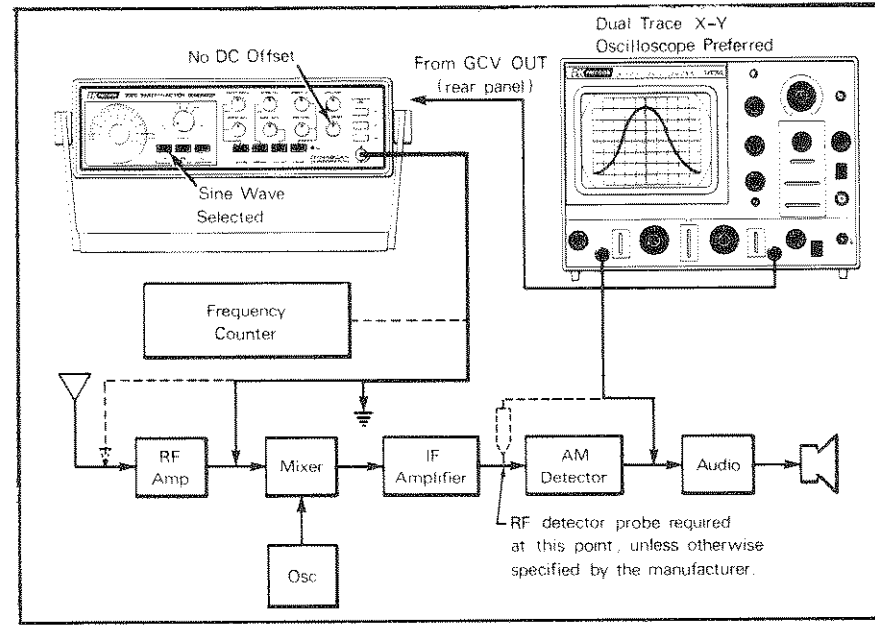

Fig. 17. AM receiver alignment.
1. Use the test set-up of Fig. 17, which will produce a linear sweep display.
When using a conventional oscilloscope probe, the display will be an envelope such as shown in Fig. 14. The relative gain or attenuation of all frequencies within the swept band is displayed. The display may be analyzed for acceptable or unacceptable frequency response characteristics. In wideband amplifiers, the objective is usually to maintain a flat frequency response over the widest possible bandwidth. Frequency response displays of filters and coupling networks show the cutoff frequency and the sharpness of the cutoff. The frequency response display is often the basis for alignment of RF circuits (Fig. 17 and 18). The display also may be analyzed to determine the center frequency of bandpass, symmetry of bandpass, bandwidth, gain or signal amplitude, Q, and rejection of adjacent frequencies.